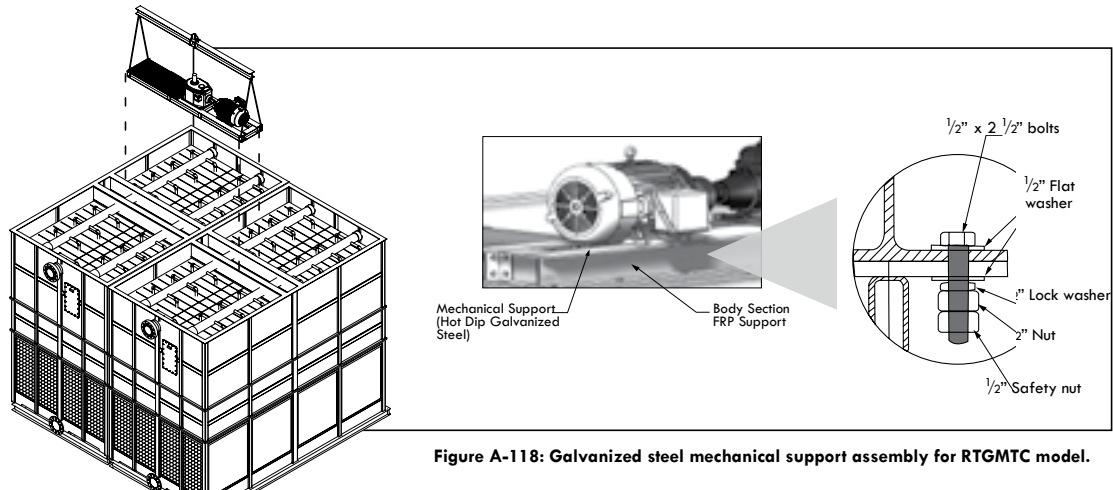

Figure A-117: Galvanized Steel mechanical support installed on top of the 2-module section of the RTGMTC model.
- R.** To assemble the Fan deck section, initiate installing the Galvanized Steel mechanical support on top of the 2-module section. The Galvanized Steel mechanical support has installed on it one motor and one gear box. (See figure a-117).